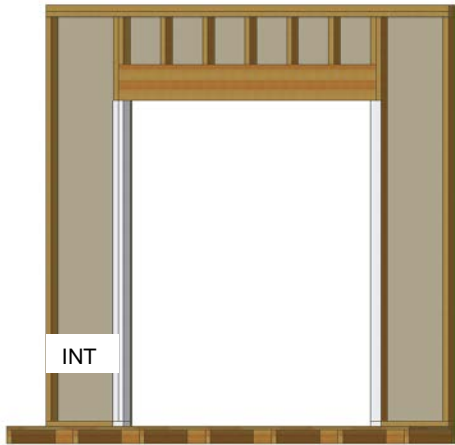

Fig. 3
- G) Fold back the WRB on the sides toward the interior and staple into place. (Fig. 3)